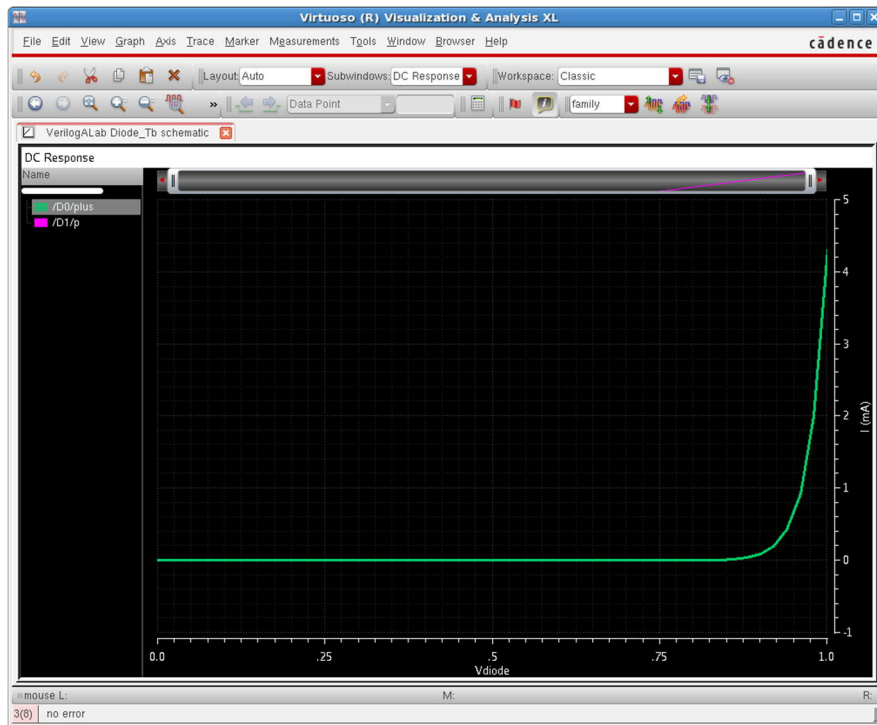

Figure 14. Simulation result for **dnlvtgp** and **MyDiode**.
- Check that the **dnltgtp** and **MyDiode** currents are the same. They should look something like the plots in Figure 14 (the two curves are basically coincident).